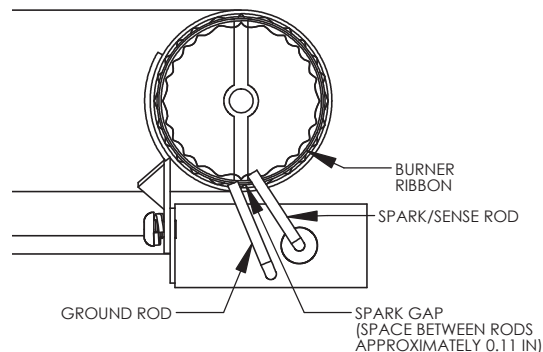

Figure 9: Spark Gap Position
8. Check for spark at the ignitor. If no spark check wire condition. If spark is present but burner does not light, turn off power to water heater. Remove burner assembly from water heater and check spark gap position. Figure 9 shows the proper position of the spark gap. The gap needs to be directly above and midway between the inner and outer ribbons at the end of the burner tube.